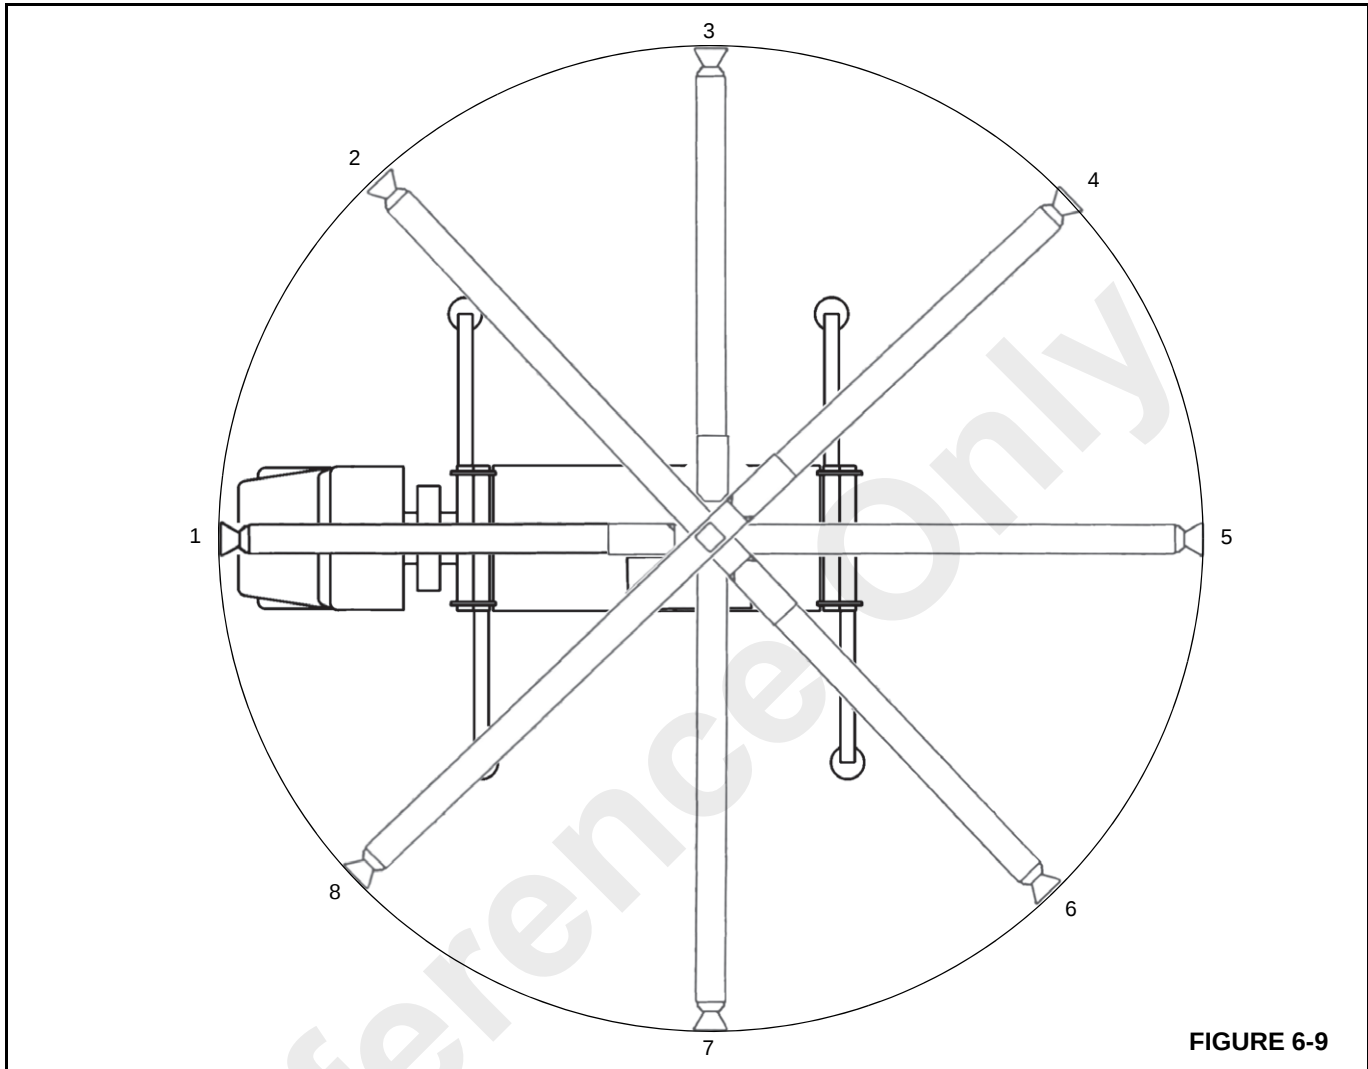

FIGURE 6-9
10. If the average is less than 2.2 mm (0.090 in), repeat the measurement at every 45° around the total working area of the crane (Figure 6-9).